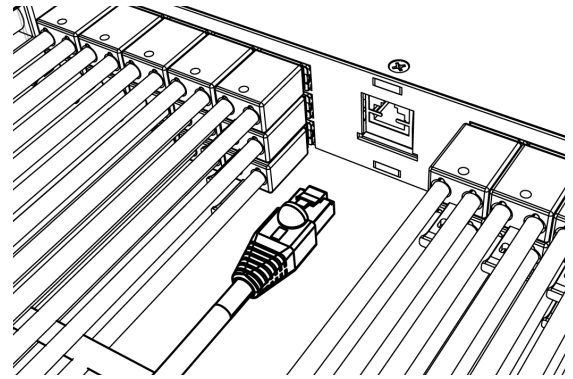

Figure 20. Ethernet module
Step 1. Connect a Cat 5/5e/6 UTP Ethernet cable from the local network to the Ethernet port on the rear of the panel (see Figure 20). Refer to "Appendix A: Mechanical Drawings" on Page 18 for exact location. Use a TIA/EIA T-568B pinout for the network connection.